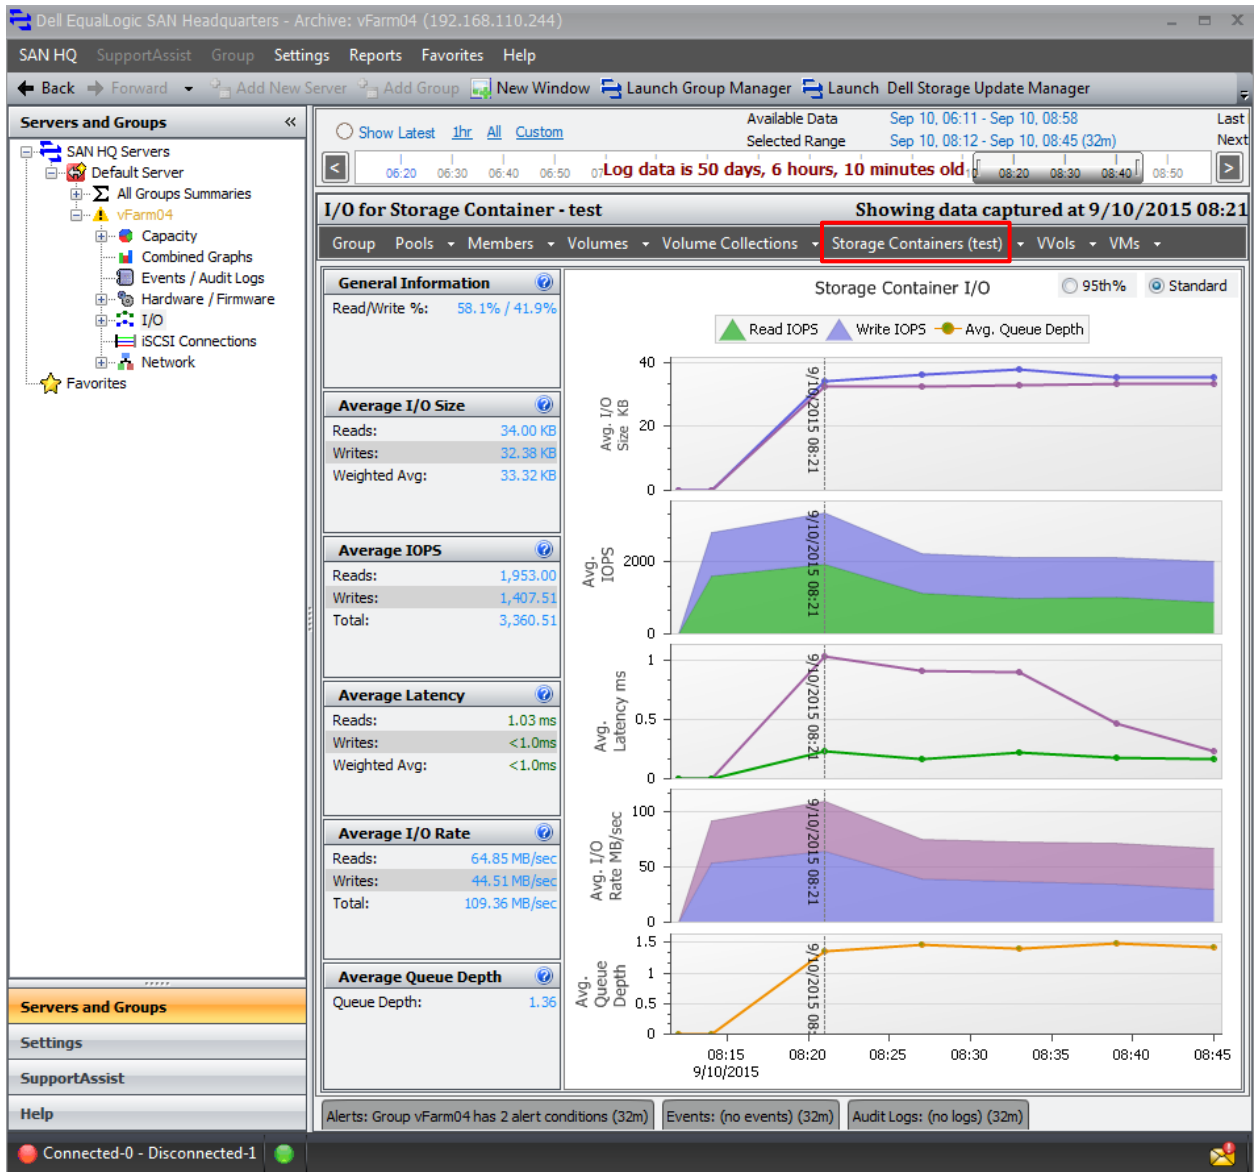

Figure 39 I/O panel showing all metrics for the storage container
- View vVol performance by selecting **Group, Pool, Member, Storage Container, VMs** or **VVols** menu options. In Figure 39, performance metrics are demonstrated for the storage container “test” (which is on this array).